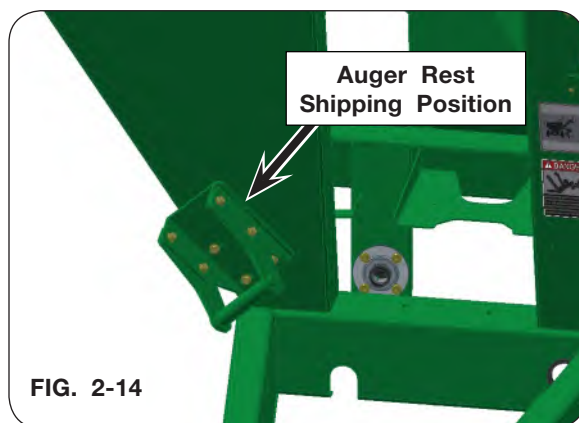

FIG. 2-14
3. Move the auger rest from shipping position to operating position. (FIG. 2-14 and 2-15)